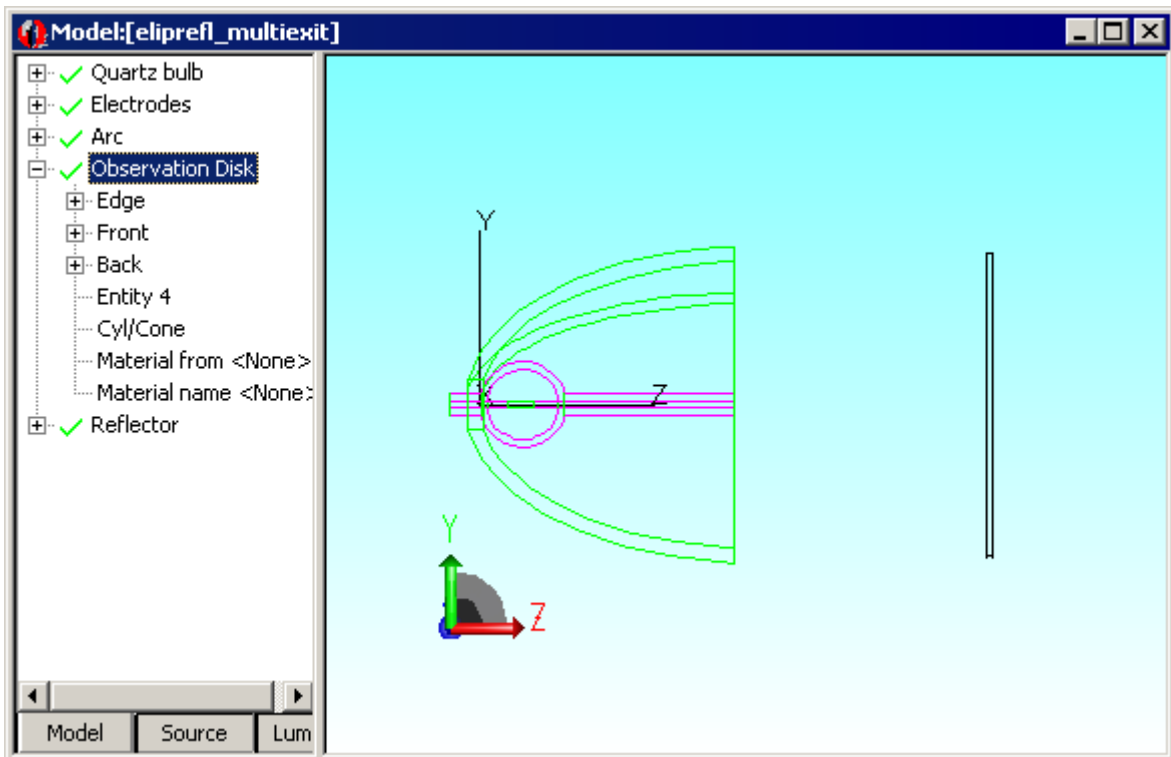

FIGURE 9.65 - eliprefl.oml file with the Observation disk selected, ready for deleting.
2. Select the Observation disk object as shown in Figure 9.65.